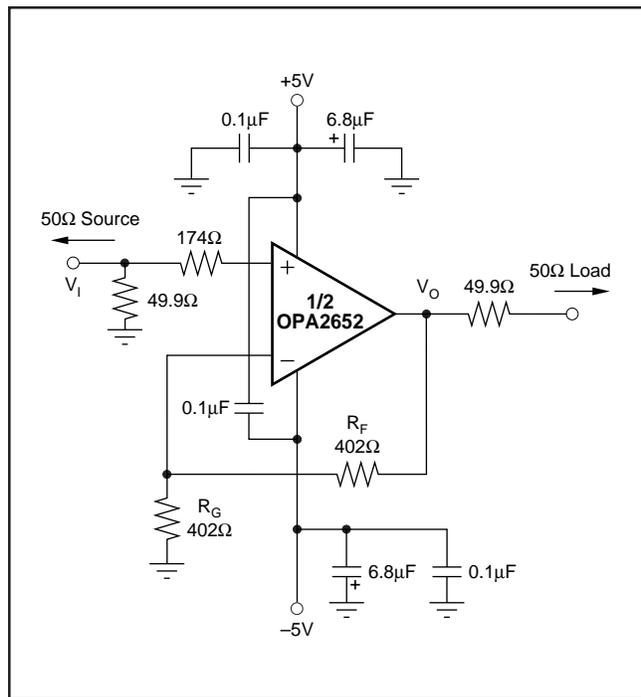
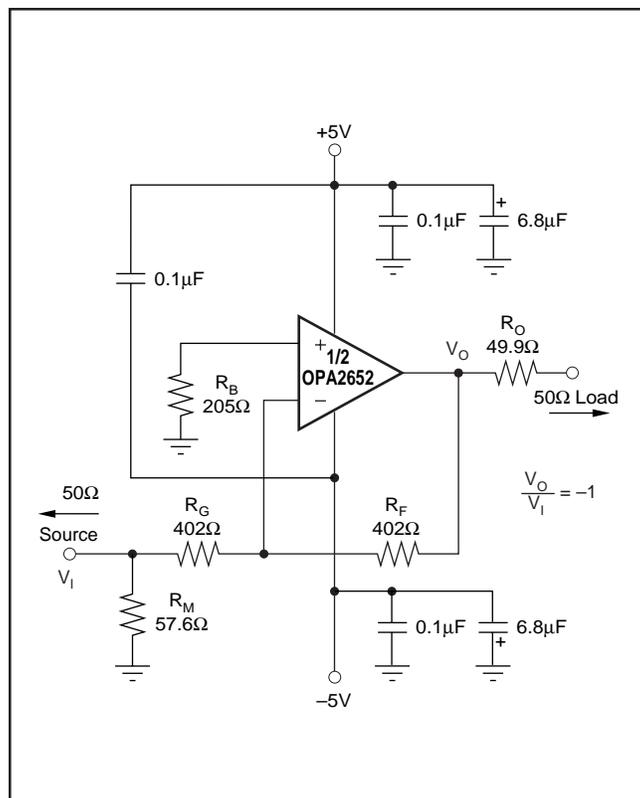

FIGURE 1. DC-Coupled, $G = +2$, Bipolar Supply, Specification and Test Circuit.
FIGURE 2. DC-Coupled, $G = -1$, Bipolar Supply, Specification and Test Circuit.
At $T_A = +25^\circ C$, $G = +2$, $R_F = 402\Omega$, and $R_L = 100\Omega$, unless otherwise noted. See Figures 1 and 2.
Figure 1 shows the DC-coupled, gain of +2, dual power supply circuit configuration used as the basis of the $\pm 5\text{V}$ Specifications and Typical Performance Curves. This is for one channel. The other channel is connected similarly. For test purposes, the input impedance is set to 50Ω with a resistor to ground and the output impedance is set to 50Ω with a series output resistor. Voltage swings reported in the specifications are taken directly at the input and output pins, while output powers (dBm) are at the matched 50Ω load. For the circuit of Figure 1, the total effective load will be $100\Omega \parallel 804\Omega$. Two optional components are included in Figure 1.
Figure 2 shows the DC-coupled gain of -1 , bipolar supply circuit configuration which is the basis of the Specifications and Typical Performance Curves at $G = -1$. The input impedance matching resistor (57.6Ω) used for testing gives a 50Ω input load. A resistor (205Ω) connects the non-inverting input to ground. This provides the DC source resistance matching to cancel outputs errors due to input bias current.
A good rule of thumb is to target the parallel combination of R_F and R_G (Figure 1) to be less than approximately 300Ω. The combined impedance $R_F \parallel R_G$ interacts with the inverting input capacitance, placing an additional pole in the feedback network, and thus a zero in the forward response. Assuming a 2pF total parasitic on the inverting node, holding $R_F \parallel R_G < 300\Omega$ will keep this pole above 250MHz. By itself, this constraint implies that the feedback resistor R_F can increase to several kΩ at high gains. This is acceptable as long as the pole formed by R_F and any parasitic capacitance appearing in parallel is kept out of the frequency range of interest.
Voltage feedback op amps exhibit decreasing closed-loop bandwidth as the signal gain is increased. In theory, this relationship is described by the Gain Bandwidth Product (GBP) shown in the specifications. Ideally, dividing GBP by the non-inverting signal gain (also called the Noise Gain, or NG) will predict the closed-loop bandwidth. In practice, this only holds true when the phase margin approaches 90° , as it does in high gain configurations. At low gains (increased feedback factor), most amplifiers will exhibit a wider bandwidth and lower phase margin. The OPA2652 is compensated to give a flat response in a non-inverting gain of 1 (Figure 1). This results in a typical gain of +1 bandwidth of 700MHz, far exceeding that predicted by dividing the 200MHz GBP by $NG = 1$. Increasing the gain will cause the phase margin to approach 90° and the bandwidth to more closely approach the predicted value of (GBP/NG) . At a gain of +5, the 45MHz bandwidth shown in the Typical Specifications is close to that predicted using this simple formula.
Since the OPA2652 is a general purpose, wideband voltage feedback op amp, all of the familiar op amp application circuits are available to the designer. Inverting operation is one of the more common requirements and offers several performance benefits. Figure 2 shows a typical inverting configuration.
In the inverting configuration, three key design considerations must be noted. The first is that the gain resistor (R_G) becomes part of the signal channel input impedance. If input impedance matching is desired (which is beneficial whenever the signal is coupled through a cable, twisted pair, long PC board trace or other transmission line conductor), R_G may be set equal to the required termination value and R_F adjusted to give the desired gain. This is the simplest approach and results in optimum bandwidth and noise performance. However, at low inverting gains, the resultant feedback resistor value can present a significant load to the amplifier output. For an inverting gain of -1 , setting R_G to 50Ω for input matching eliminates the need for R_M but requires a 50Ω feedback resistor. This has the interesting advantage that the noise gain becomes equal to 2 for a 50Ω source impedance—the same as the non-inverting circuits considered above. However, the amplifier output will now see the 50Ω feedback resistor in parallel with the external load. In general, the feedback resistor should be limited to the 200Ω to $1.5k\Omega$ range. In this case, it is preferable to increase both the R_F and R_G values as shown in Figure 2, and then achieve the input matching impedance with a third resistor (R_M) to ground. The total input impedance becomes the parallel combination of R_G and R_M .
The second major consideration, touched on in the previous paragraph, is that the signal source impedance becomes part of the noise gain equation and influences the bandwidth. For the example in Figure 2, the R_M value combines in parallel with the external 50Ω source impedance, yielding an effective
driving impedance of $50\Omega \parallel 57.6\Omega = 26.8\Omega$. This impedance is added in series with R_G for calculating the noise gain (NG). The resultant NG is 1.94 for Figure 2, (an ideal 0Ω source would cause $NG = 2.00$).
The third important consideration in inverting amplifier design is setting the bias current cancellation resistor on the non-inverting input (R_B). If this resistor is set equal to the total DC resistance looking out of the inverting node, the output DC error, due to the input bias currents, will be reduced to $(\text{Input Offset Current}) \cdot R_F$. If the 50Ω source impedance is DC-coupled in Figure 2, the total resistance to ground on the inverting input will be 429Ω . Combining this in parallel with the feedback resistor gives 208Ω , which is close to the $R_B = 205\Omega$ used in Figure 2. To reduce the additional high frequency noise introduced by this resistor, it is sometimes bypassed with a capacitor. As long as $R_B < 300\Omega$, the capacitor is not required since its total noise contribution will be much less than that of the op amp's input noise voltage.
The OPA2652 provides good distortion performance into a 100Ω load on ±5V supplies. Increasing the load impedance improves distortion directly. Remember that the total load includes the feedback network; in the non-inverting configuration (Figure 1) this is sum of $R_F + R_G$, while in the inverting configuration, it is just R_F . Also, providing an additional supply decoupling capacitor (0.1μF) between the supply pins (for bipolar operation) improves the 2nd-order distortion slightly (3dB to 6dB).
Evaluating these two equations for the OPA2652 circuit and component values shown in Figure 1 will give a total output spot noise voltage of $17\text{nV}/\sqrt{\text{Hz}}$ and a total equivalent input spot noise voltage of $8.4\text{nV}/\sqrt{\text{Hz}}$. This is including the noise added by the bias current cancellation resistor (205Ω) on the non-inverting input. This total input-referred spot noise voltage is only slightly higher than the $8\text{nV}/\sqrt{\text{Hz}}$ specification for the op amp voltage noise alone. This will be the case as long as the impedances appearing at each op amp input are limited to the previously recommend maximum value of 300Ω. Keeping both ($R_F \parallel R_G$) and the non-inverting input source impedance less than 300Ω will satisfy both noise and frequency response flatness considerations. Since the resistor-induced noise is relatively negligible, additional capacitive decoupling across the bias current cancellation resistor (R_B) for the inverting op amp configuration of Figure 2 is not required.
The balanced input stage of a wideband voltage feedback op amp allows good output DC accuracy in a wide variety of applications. Although the high speed input stage does require relatively high input bias current (typically 4μA out of each input terminal), the close matching between them may be used to significantly reduce the output DC error caused by this current. This is done by matching the DC source resistances appearing at the two inputs. This reduces the output DC error due to the input bias currents to the offset current times the feedback resistor. Evaluating the configuration of Figure 1, using worst-case +25°C input offset voltage and current specifications, gives a worst-case output offset voltage equal to:
As an example, compute the maximum T_J using an OPA2652E (SOT23-8 package) in the circuit of Figure 1 operating at the maximum specified ambient temperature of $+85^{\circ}\text{C}$ and with both outputs driving 2.5V_{DC} into a grounded 100Ω load.